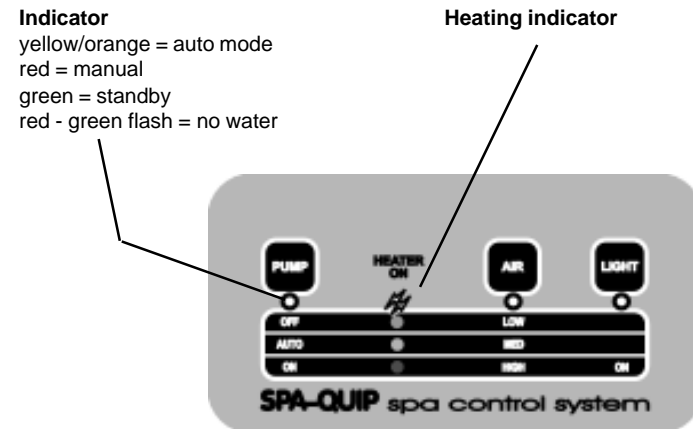

Fig 3: Automatic mode
- 4/ The control automatically starts in demand heat mode. The switch mode light should be yellow/orange (Fig 3).
When in the automatic mode, the indicator shows yellow/orange (Fig 3). The time clock will automatically turn the system on and off at preset times (see time clock setting instructions - page 6).
The time clock is used to regulate the operating times of the pool equipment. This function is used to turn all operations of the pool to standby or sleep mode. The clock is only effective in the auto mode (Fig 3). Any functions left on like the pool light or blower will be terminated when the controller goes to sleep. When the clock allows the controller to run again, pump and heating will resume. However the light and blower will remain off until their switches are pressed again.
the clock face should be rotated **clockwise only** to set the time. The segments each representing 10 minutes are pulled out as shown [2] to activate sleep mode. A minimum of 2 adjacent segments are needed between sleep and auto modes. Figure 10 shows the sleep mode set to switch off at midnight through to 7am the following morning. The clock is set to 7.45am as indicated by the hands and the white arrow [3] on the outer segments. The clock may be overridden at any time by entering the manual function (Fig 3) or operating the override switch [4]. The indicator [5] is shown in the normal operating position "0". When settings are complete be sure to refit clock cover.